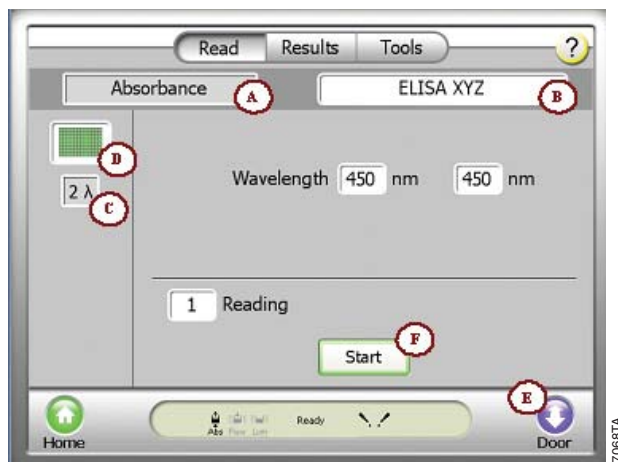

Figure 15. Absorbance Parameters on the Read screen.
2. Toggle the Detection Mode to Absorbance. See Figure 15, A.
3. Touch the white text button to select a protocol or modify the displayed parameters. See Figure 15, B.
4. Single or dual wavelengths can be selected by toggling the “Wavelength” button. See Figure 15, C.
6. Touch the “Plate” button and select the wells to be read. Green is selected, grey is deselected, and “REF” is for reference wells. See Figure 15, D.
7. Touch the “Door” button to automatically open the instrument door. See Figure 15, E.
10. Touch the “Start” button. See Figure 15, F.